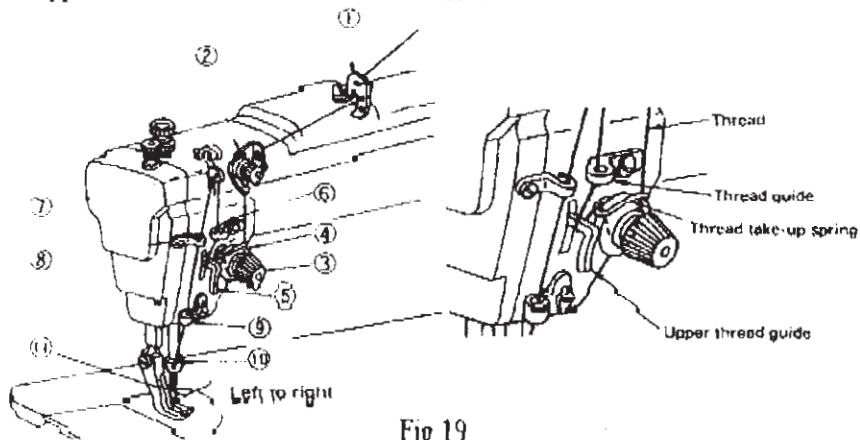

Fig.19
19. How to route the upper thread (Fig.19):